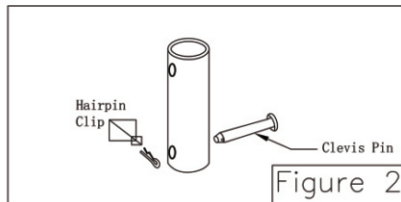

Figure 2
- Remove the hairpin clip and clevis pin from the bottom of the downrod. Retain the pin and clip for reinstallation in Step 4. (Figure 2)